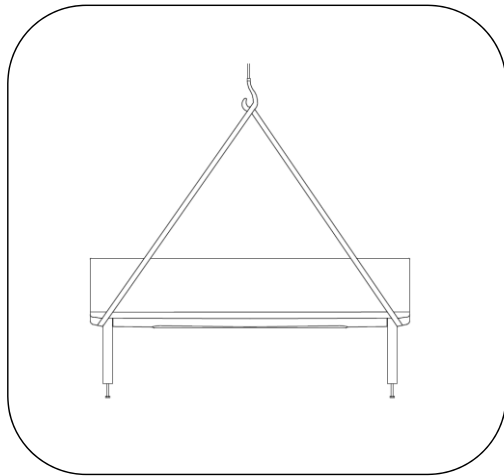

Fig. 1 – Crane install
5. Lower unit over holes, using proper equipment such as a forklift or crane, see Fig. 1.